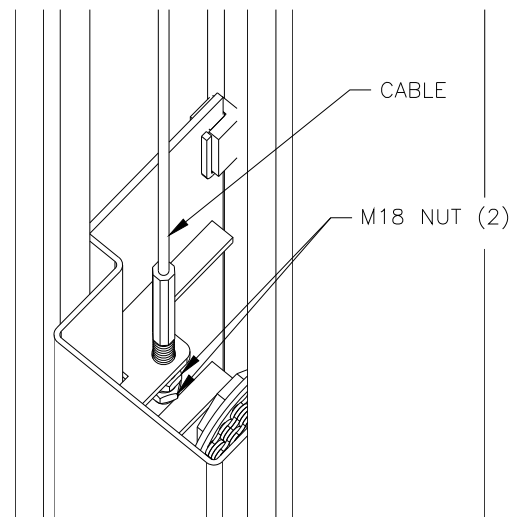

Fig 8-Cable Attachment
- 21) Raise the carriages so the hydraulic cylinder is out of the way and sent into the locks. Using a wrench, tighten the nut on the cable, **Fig 8** and then use the second nut as a jam nut once cables are adjusted properly.